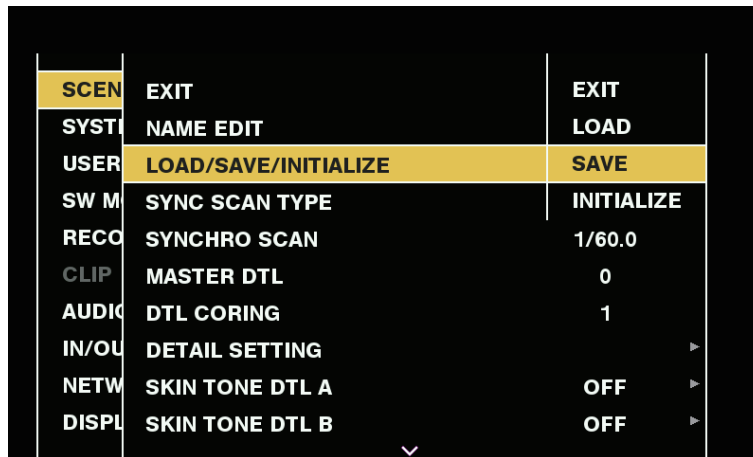

Fig. 1
- 2 Select **[SAVE]** in the main menu → **[SCENE FILE]** → **[LOAD/SAVE/INITIALIZE]**. (Fig. 1)